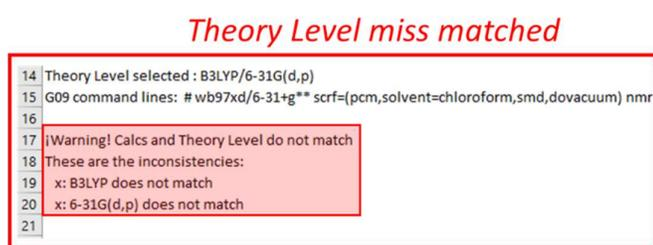

Figure 7. Examples of theory level miss selection
In cases where the selected theory level does not align with the Gaussian calculation command line, a warning will be displayed, indicating any inconsistencies encountered (refer to Figure 7).
If a theory level has already been parameterized, the distribution parameters and tensors of the TMS (Figure 7.a) can be manually entered using the keyboard.
**Figure 7.** a) Input parameters mode: allow to entry the values of an already parametrized level. b) Load mode: capable of automatically determine the distribution parameters using the training set calculus. Also, offers templates of the training set in QM y MM optimization.
Based on the findings presented in the article *J. Org. Chem.* **2021**, *86*, *12*, *8544–8548*, it is recommended to use the set of 8 molecules listed in Table 1 for parametrizing your theory level. These molecules have been thoroughly tested and proven to accurately estimate the distribution parameters. To facilitate the preparation process, the input files for Gaussian calculations in both MM (using the MMFF force field) and QM (using the B3LYP theory level) optimization can be downloaded (Figure 7.b). In the input window, the command line can be specified as required by Gaussian, along with the 'nmr' calculation instruction.